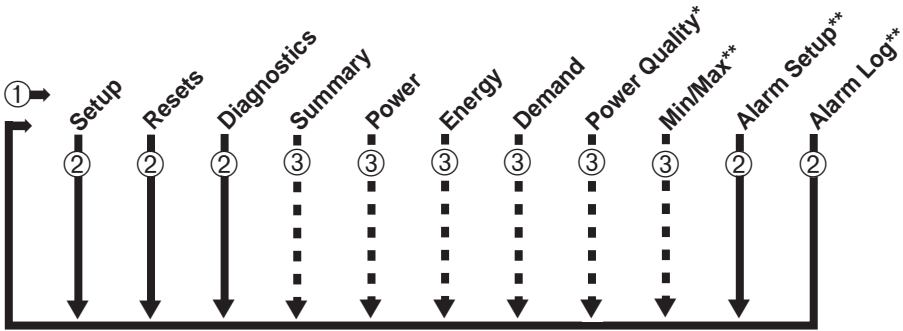

Figure 7-1: Navigating power meter parameters
To access a mode, refer to figure 7-1 while following these steps:
1. Press the *Mode* button until the desired mode appears (①, figure 7-1).
3. For Setup, Resets, Diagnostics, Alarm Log**, or Alarm Setup** modes, press the *Select* button to select a field (②), and move through screens in that mode.